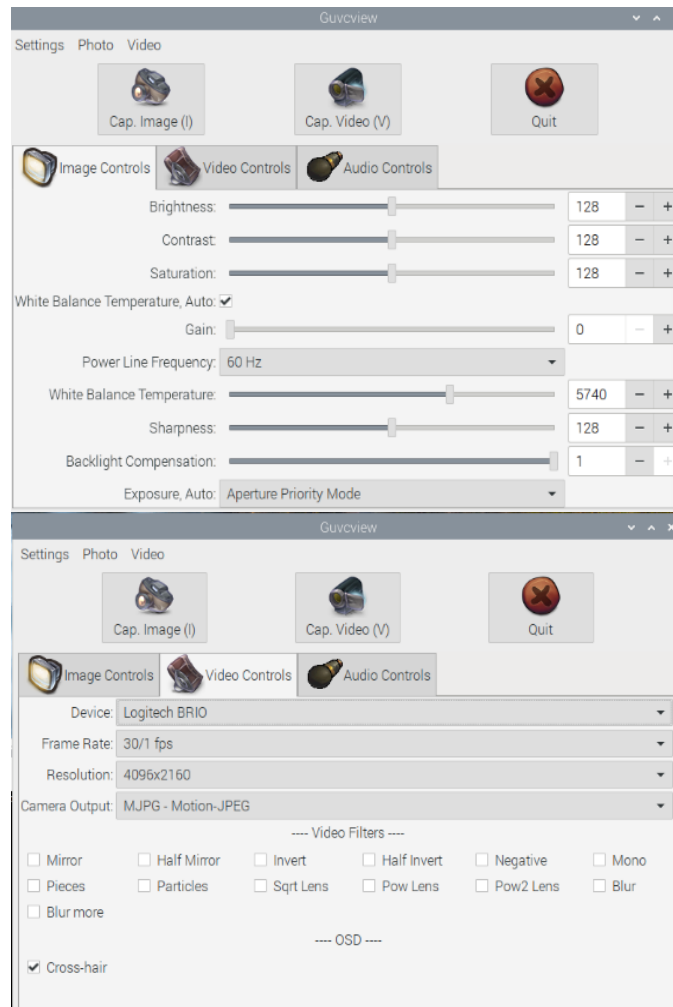

Figure 18: screenshot from the guvcview tool, a gui based camera setting tool.
- You can now change settings individually (Figure 18).
- You can also take an image by clicking the “Cap. Image” button (Figure 18).